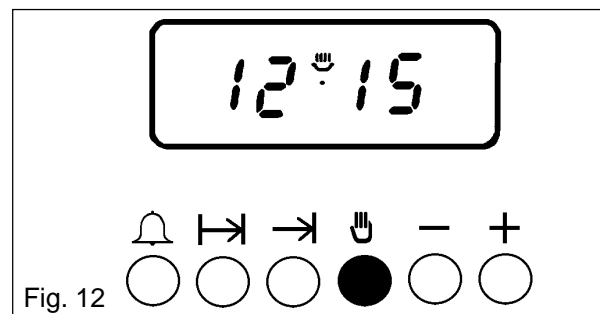

Fig. 12
- To cancel an automatic programme, press (⏸) button. The AUTO display will go out and the cookpot symbol will light, as Fig. 12.